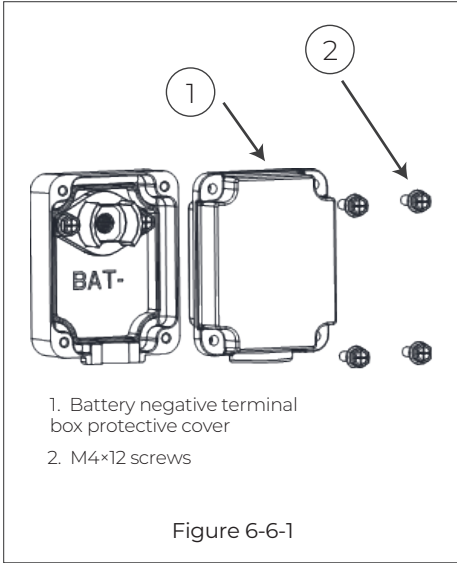

Figure 6-6-1
Step 1 : Remove the positive and negative protective cover of the inverter battery with a screwdriver(Figure 6-6-1/6-6-2);